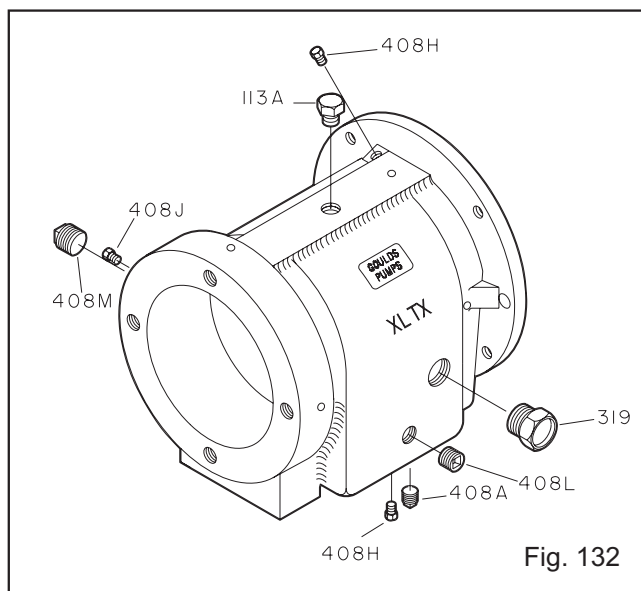

Fig. 132
1. Install the oil fill plug (113A), oil drain plug (408A), sight window (319), sight oiler plug (408J), four oil mist connection plugs (408H), or grease fittings (193) and grease relief plugs (113), and oil cooler inlet and outlet plugs or oil cooler (408L, 408M) in bearing frame (228) (Fig. 132).